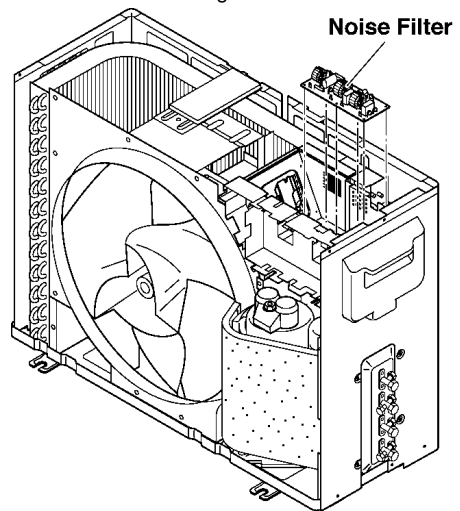

Fig. 25
6. Remove the noise filter. (Six tabs) (Fig.25)